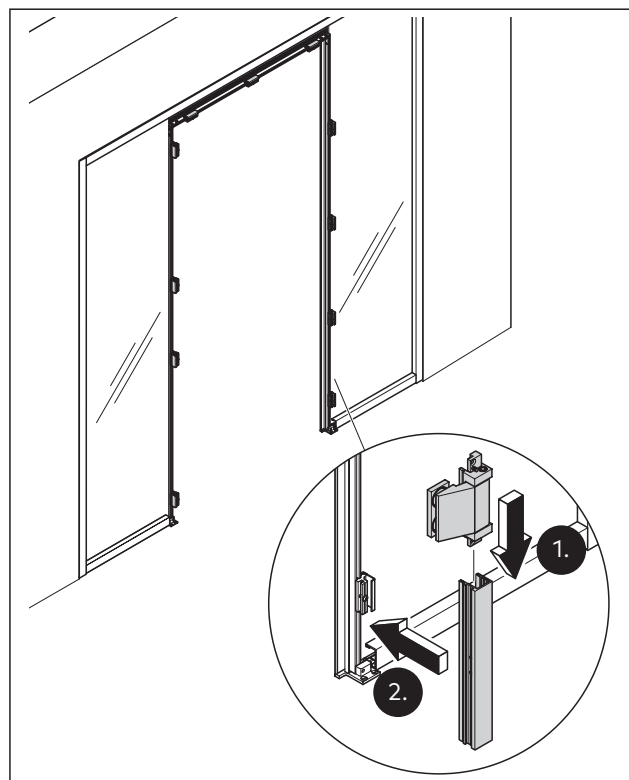

Fig. 33 Insert the first section of the cover profile for the door frame and the door hinge
1. Place the first door hinge on the first vertical section of the cover profile for the door frame (Fig. 33).